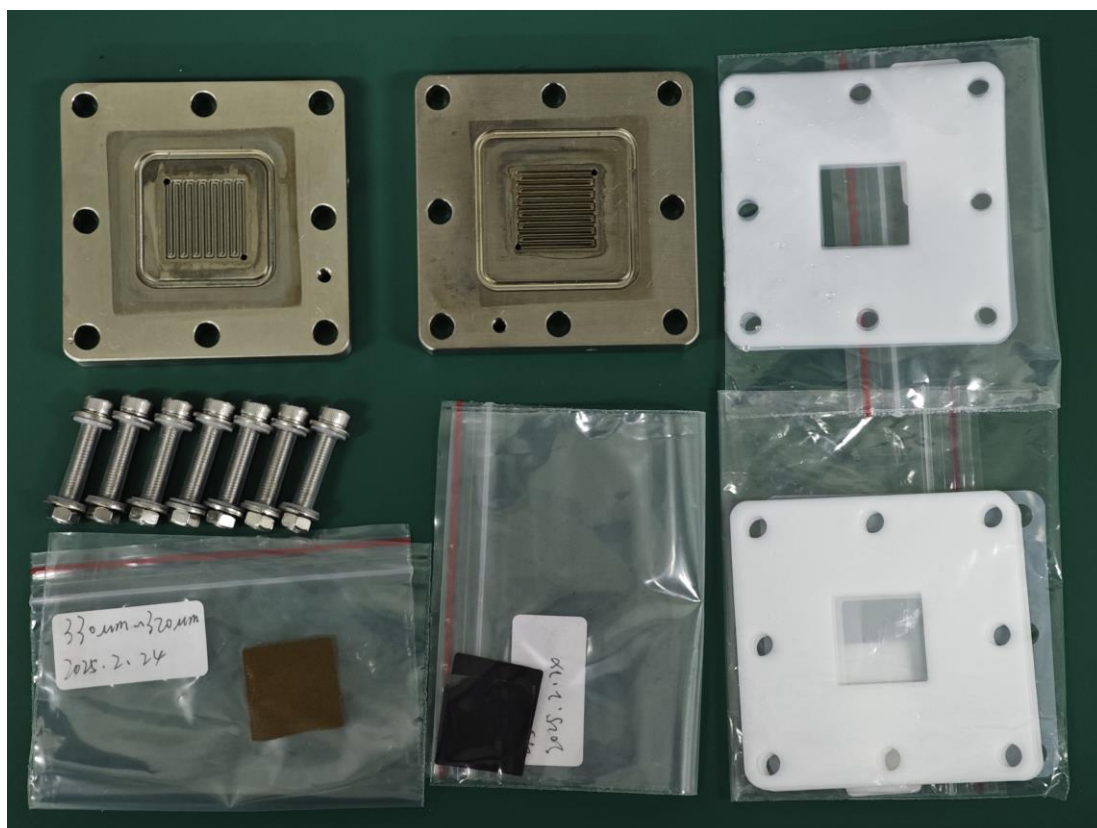

Figure 1. 5cm² electrolytic cell components
1. Materials required: Single cell hardware - anodic and cathodic end plate (functioning also as current collector and flow field control), bolts and washers; Membrane electrode assembly - Anode (An) /Membrane (AEM) /Cathode (Ca) ; Sealing gaskets (GK) - of PTFE or of other sealing materials; Torque wrench: 1-20 N·m (resolution 0.1 N·m), 5M/ 6M screws and nuts; Universal adapter. The components of AEM electrolyzer are shown in Figure 1. The end plates of the electrolyzer are shown in detail, as well as the inlet and outlet fluid joints, anode and cathode electrodes, insulation screws and gaskets.